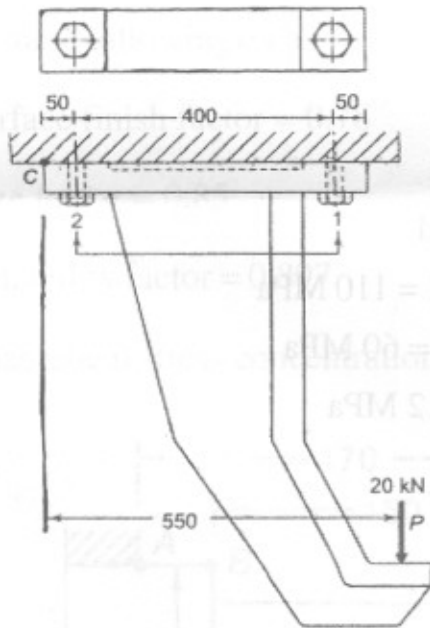

Figure 3
- 5. a) A bracket is fastened to the roof truss by means of two identical bolts as shown in figure 3. Determine the minimum core diameter of the bolts, if the permissible tensile stress in the bolts is limited to 75 N/mm^2 . 9